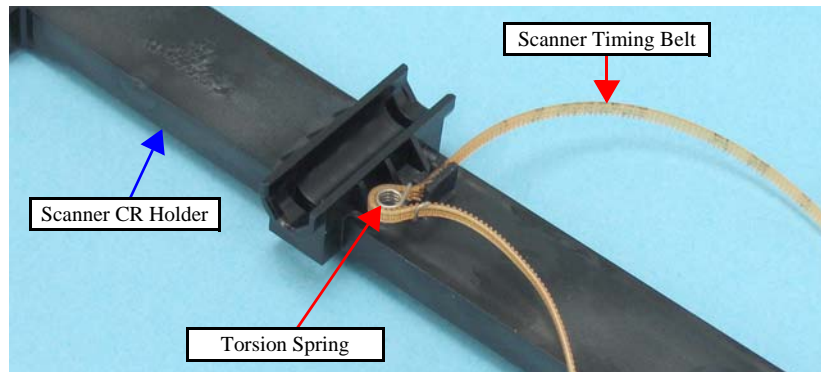

Figure 4-113. Removing the Scanner Timing Belt and Torsion Spring
- When installing the Scanner Timing Belt, attach the Torsion Spring as shown in Figure 4-113.